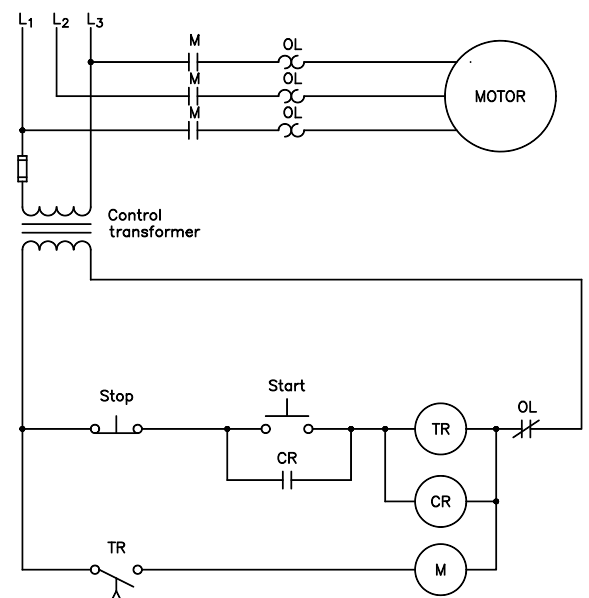
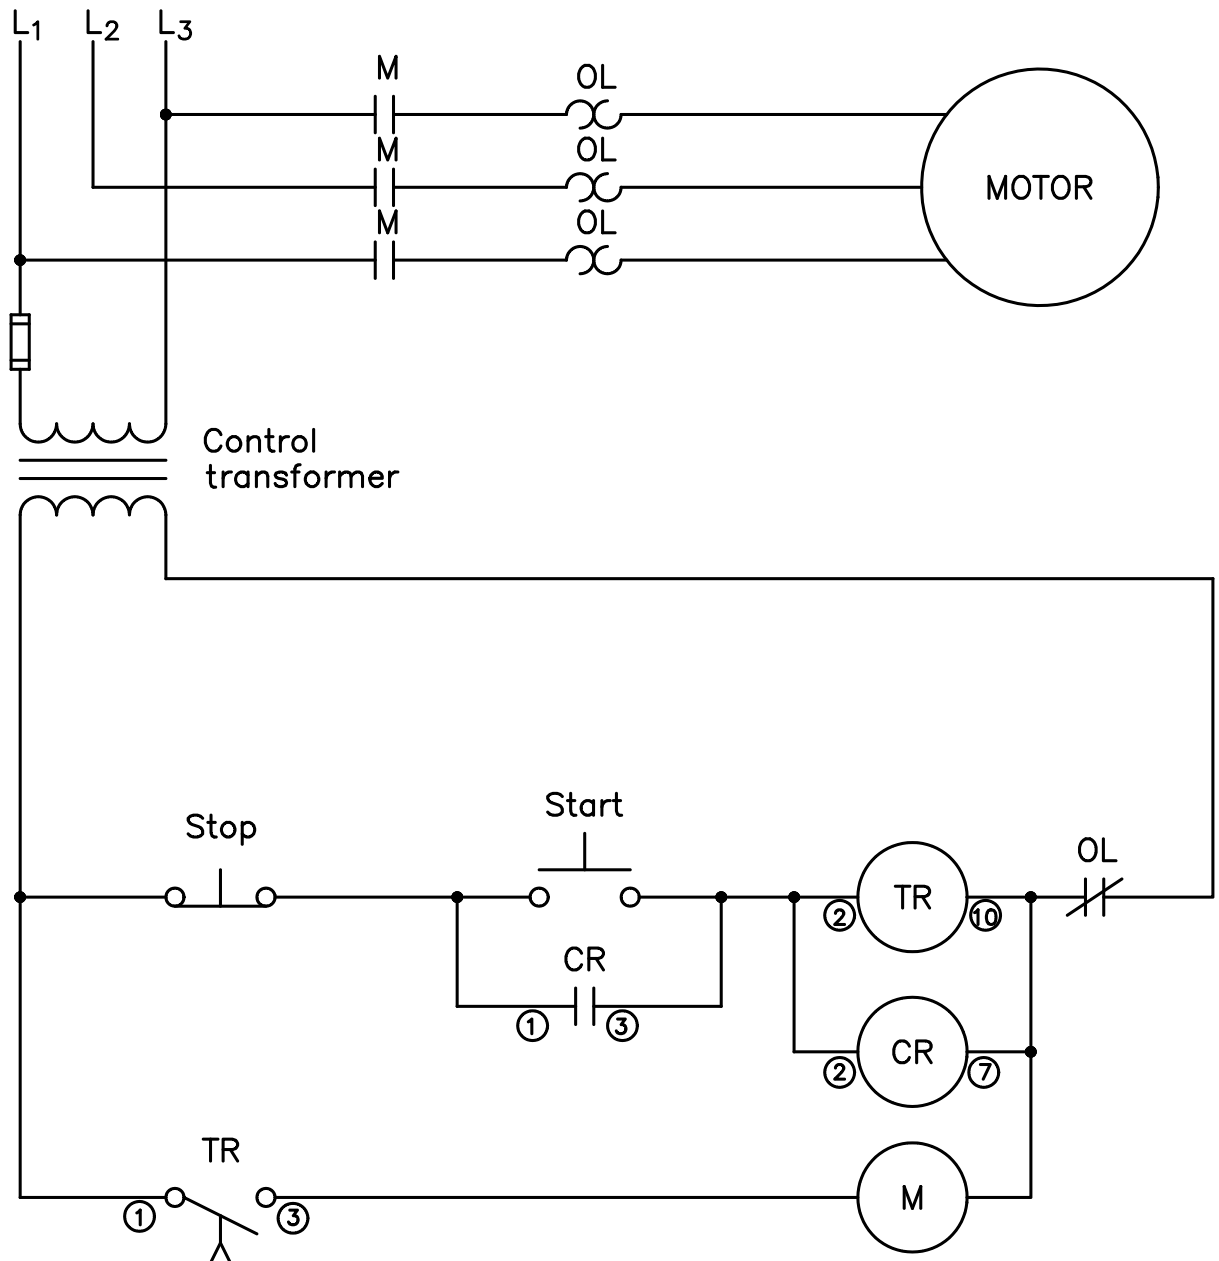

Figure 31-4 A control relay furnishes the instantaneous contact.
Figure 31-5 Placing pin numbers beside the components.
Not all timers contain instantaneous contacts. Most electronic timers, for example, do not. When an instantaneous contact is needed and the timer does not have one available, it is common practice to connect the coil of a control relay in parallel with the coil of the timer (Figure 31-4). In this way the electronic timer will operate with the timer. In the circuit shown in Figure 31-4, both coils TR and CR will energize when the start button is pressed. This causes CR contact to close and seal the circuit.
The first circuit to be connected is shown in Figure 31-4. In this circuit it will be assumed that an 11-pin timer is being used and that the coil is connected to pins 2 and 10, and a set of normally open timed contacts is connected to pins 1 and 3. The coil of the 8-pin control relay is connected to pins 2 and 7 and a normally open contact is connected to pins 1 and 3. When using control devices that are connected with 8- and 11-pin sockets, it is generally helpful to place pin numbers beside the component. To prevent pin numbers from being confused with wire numbers, a circle will be drawn around the pin numbers (Figure 31-5).
1. Using the circuit shown in Figure 31-5, place wire numbers beside the components.